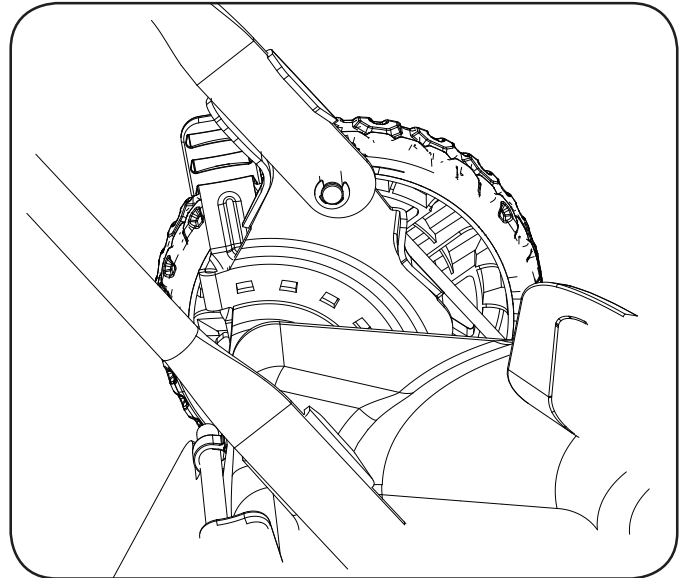

Figure 3
2. Apply a pressure to the lower handle so it can be pivoted and located into the handle holder slots of the mower. Release and check for installation (Figure 3).